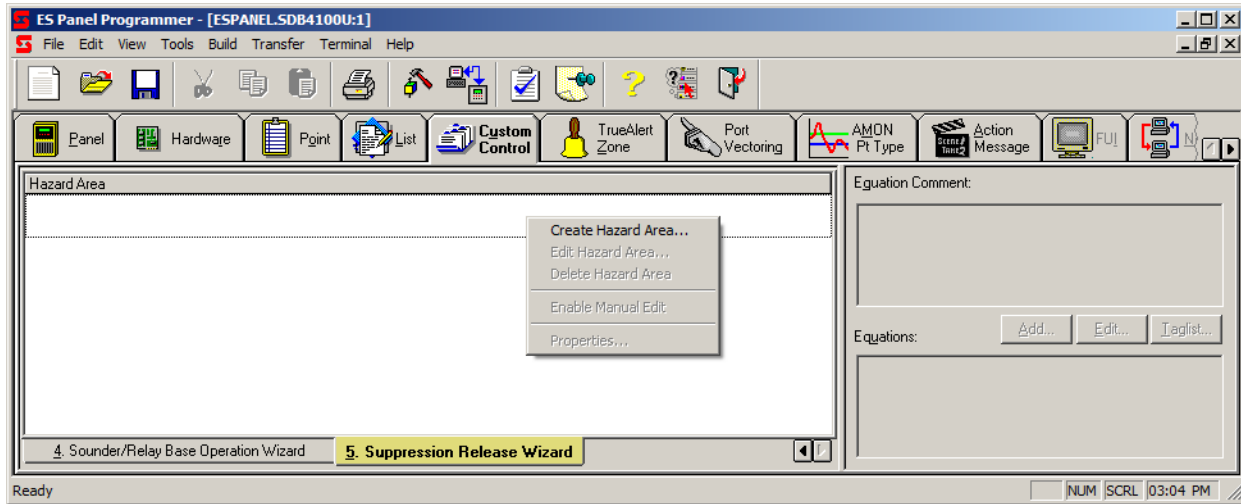

Figure 9-29. Create Hazard Area Menu Choice
2. Click the **Suppression Release Wizard** subtab. A screen similar to the one shown in Figure 9-29 appears.